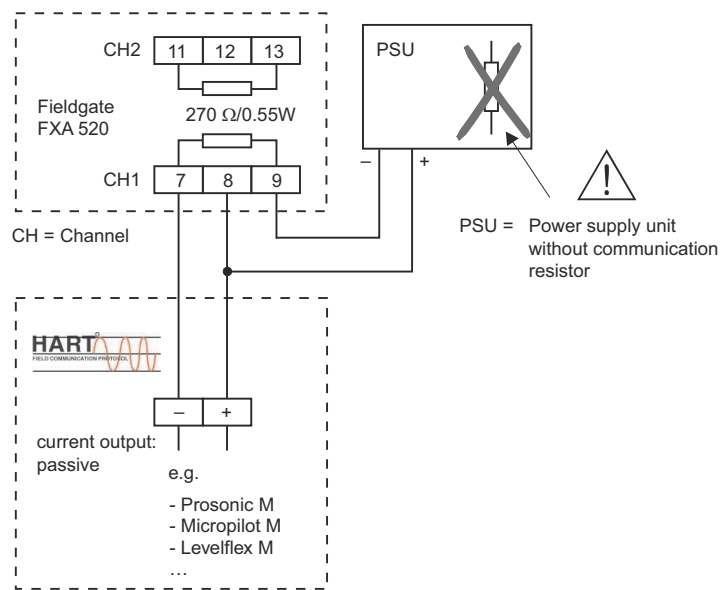

Fig. 4-7: Wiring for loop-powered HART devices, communication resistor in Fieldgate
- For loop-powered devices and power supply without communication resistor, see Fig. 4-7